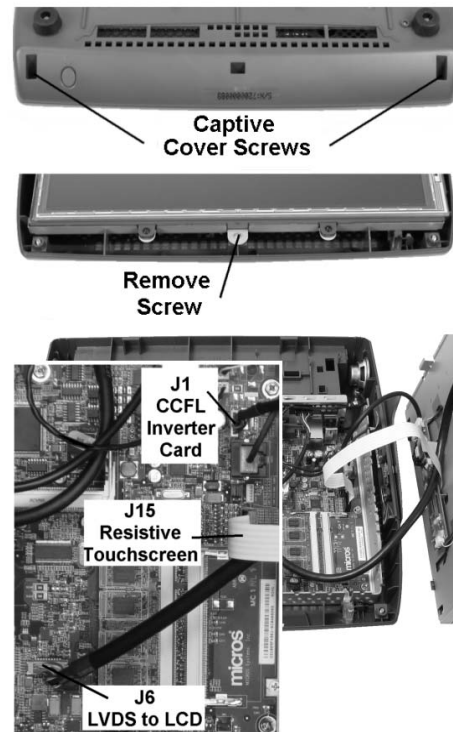

Figure 1: Removing the Cover
Refer to Figure 1.
To reassemble the workstation, reverse the steps performed to remove the cover while referring to Figure 1.
- 14.** Install the LCD, Backlight, and Touchscreen Interface Cables as shown in Figure 1.